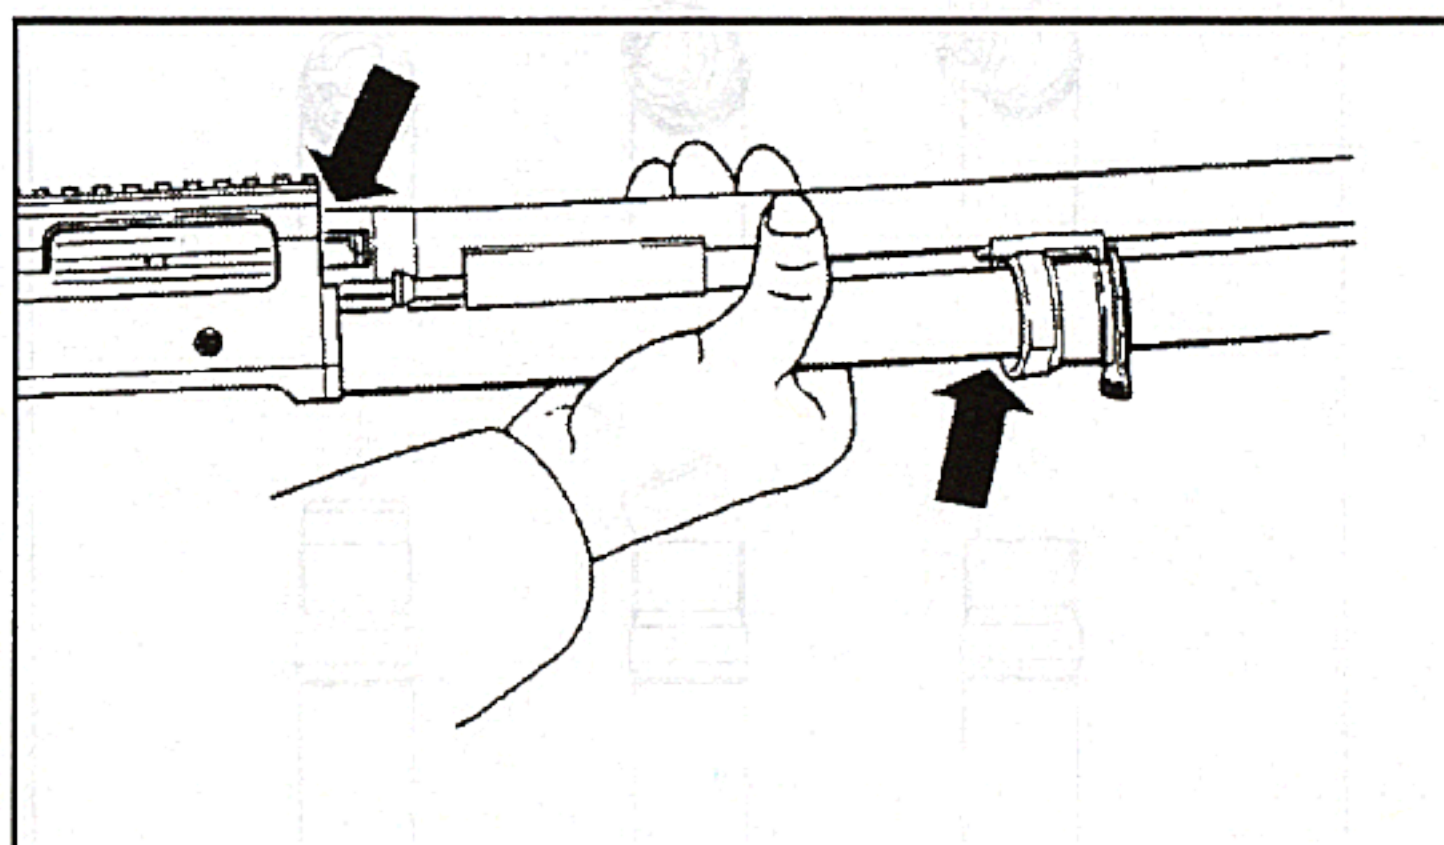

Figure 43b. Installing barrel
- B. Slide the end of the barrel extension between the left side of the bolt head and inside of the receiver (**Figure 43b**).